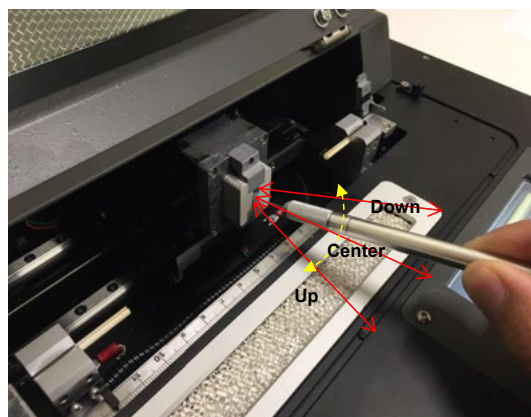

Figure 3.2.21
- c) The 'STEP 1' key turns to grey now, meaning the plasma head is ready for cleaning. Take a plasma-head cleaning brush (provided), and insert it into the front opening of the plasma head as shown in Fig. 3.2.21.
Referring to the indications in Fig. 3.2.21, try to brush the inside of the plasma head from different angles (pointing up, pointing flat, and pointing down) for about 30 seconds in total.